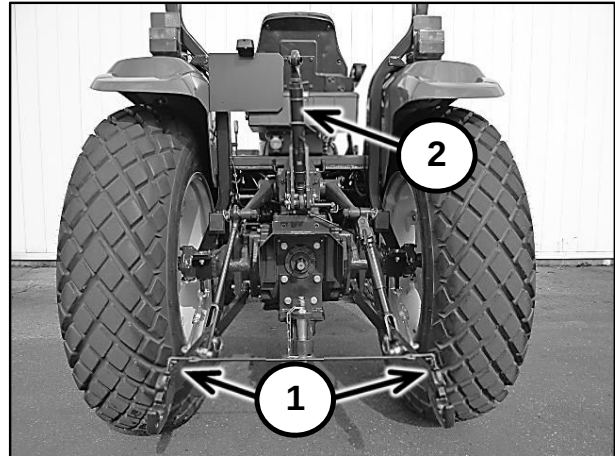

Figure 2-41
The tractor's three-point linkage is used to attach three-point mounted equipment which is usually PTO operated, such as rotary mowers, tillers, flail mowers, snow blowers, etc. The three linkage points with Category 1 size are the two lower lift arms (1) in Figure 2-41, and the top link (2) in Figure 2-41.